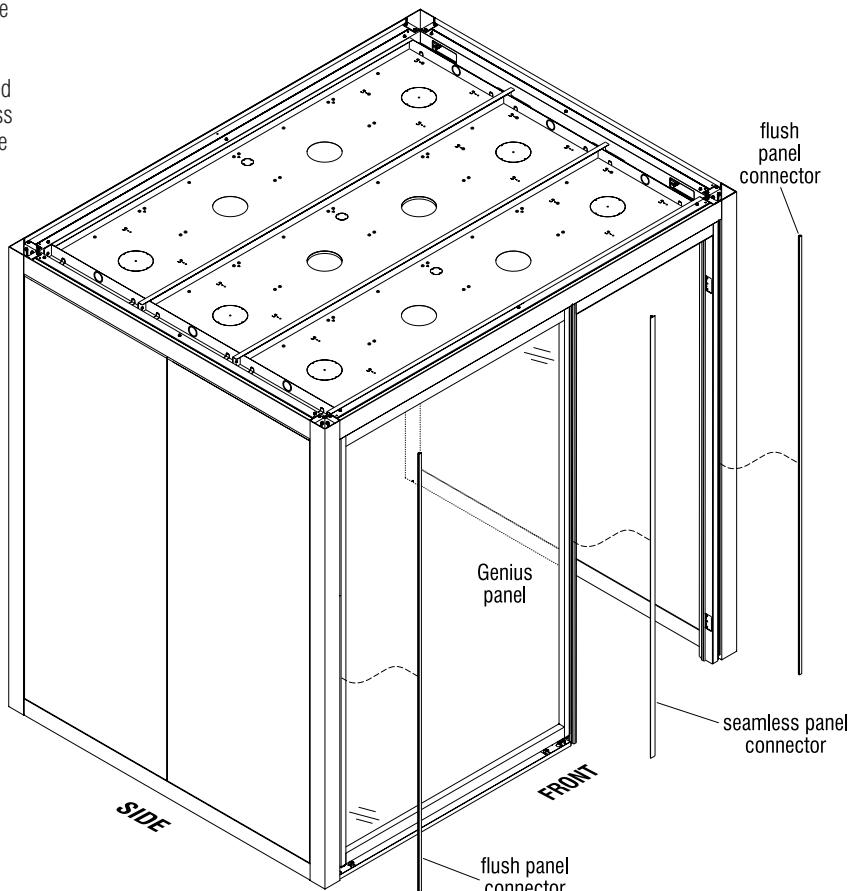

Figure 6
**Important:** The Genius panel frame joins to the door frame (panel-to-door frame) using a seamless panel connector. Genius panels join to corner posts (panel-to-post) using flush panel connectors, and in situations with more than one Genius panel on a front wall, the panel-to-panel connection uses a seamless panel connector. All panel connector types install to both inside and outside of the super structure (Figures 6 & 7).
**Note:** Both the seamless panel connectors and the flush panel connectors install in a similar manner. See figures 6 & 7 to determine the correct location for both types of panel connectors for your super structure layout.
11. Before installing any flush, or seamless panel connector, first assure that the panel frame to door frame are plumb to each other and to the corner posts. Also assure that a  $1/16$ " gap is between each panel-to-door frame connector and that the same  $1/16$ " gap is between each panel-to-post connector (Figures 6 & 7).
12. Beginning at the top of any panel-to-door frame, or panel-to-post to be joined, insert the appropriate panel connector into the gap and use a thumb, or nylon block with mallet and work the panel connector in carefully and evenly from the top to the bottom. Install a panel connector to the inside and outside of each location (Figures 6 & 7).